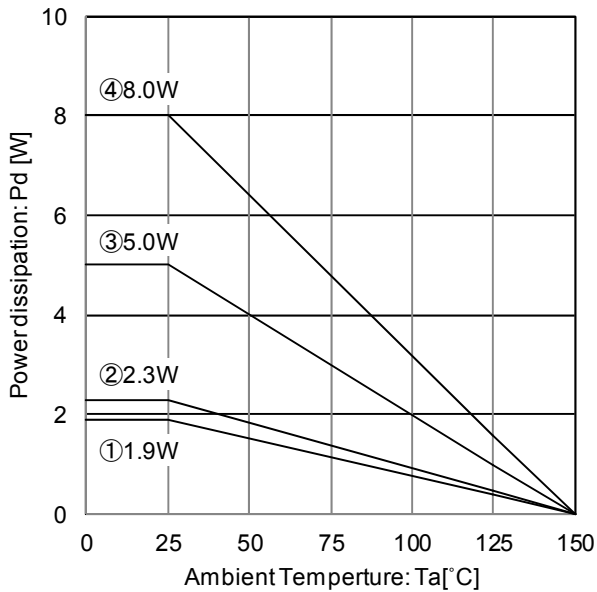

Figure 21. Package data of TO263-5F
Refer to the heat mitigation characteristics illustrated in Figure 21, 22 and the power dissipation under actual operating conditions should be taken into consideration and a sufficient margin should be allowed for in the thermal design. The amount of heat generated depends on the voltage difference across the input and output, load current, and bias current. Therefore, when actually using the chip, ensure that the generated heat does not exceed the Pd rating. Even if the ambient temperature Ta is at 25 °C, it is possible that the junction temperature Tj reaches high temperatures. Keep the whole operating temperature range within  $T_j \leq T_{jmax}$ .
- Calculation example : with TO263-5F package, Ta = 105 °C, VCC = 13.5 V, VO = 5.0 V, board ③ (Figure 21.)
In case of board ③ in Figure 21, Ta = 105 °C
At Ta = 105 °C with Figure 21 ③ condition, the calculation shows that 211 mA of output current is possible at 8.5 V potential difference across input and output.
- Calculation example : with Tc (bottom) = 80 °C, VCC = 13.5 V, VO = 5.0 V, IO = 200 mA, board ③ (Figure 21.)